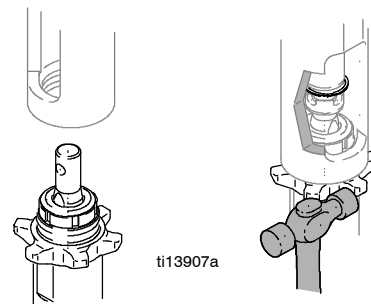

Fig. 10
1. Fig. 10. Screw jam nut to bottom of pump threads. Screw pump completely into manifold. Unscrew pump from manifold until pump outlet aligns with hose. Hand tighten jam nut, then tap 1/8 to 1/4 turn with hammer or torque to 200 ft-lb (270 N·m).